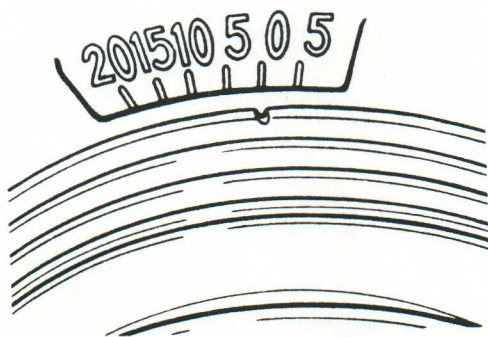

Figure 240-1
- (a) Set cylinder No. 1 to TDC/compression. Turn the crankshaft pulley and align the groove with the "0" mark on the No. 1 timing belt cover (Figure 240-1).